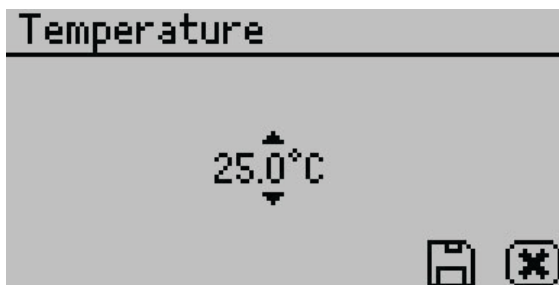

Figure 38 Temperature option
- **Temperature.** Select to set the AQUALAB to the desired temperature using **UP** and **DOWN**. When finished, select **SAVE** (Figure 38).